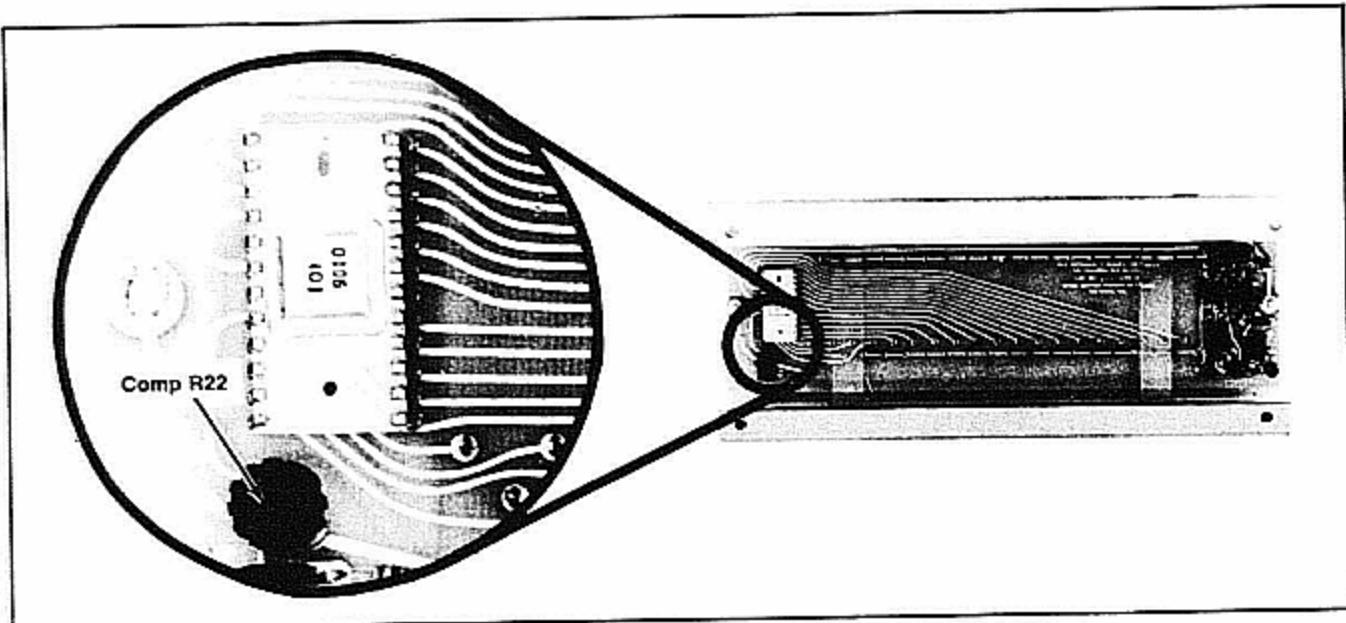

Fig. 6. Location of Comp R22.
d. ADJUST—Comp R22 (see Fig. 6) so the waveform peaks just start to broaden.